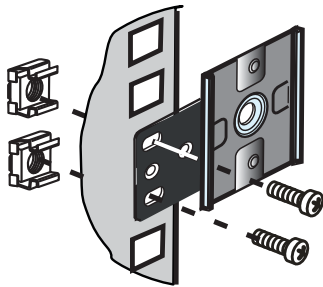

Figure 22. Attaching the Rotated Clip to the Rail
7. Locate the two clip feet and four M6 screws (supplied). Turn the straight part of the bracket 90° (see Figure 22).